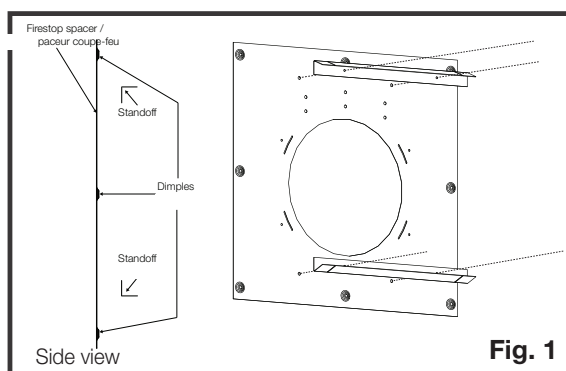

Fig. 1
1. Install standoffs onto the firestop spacer (**Figure 1**).